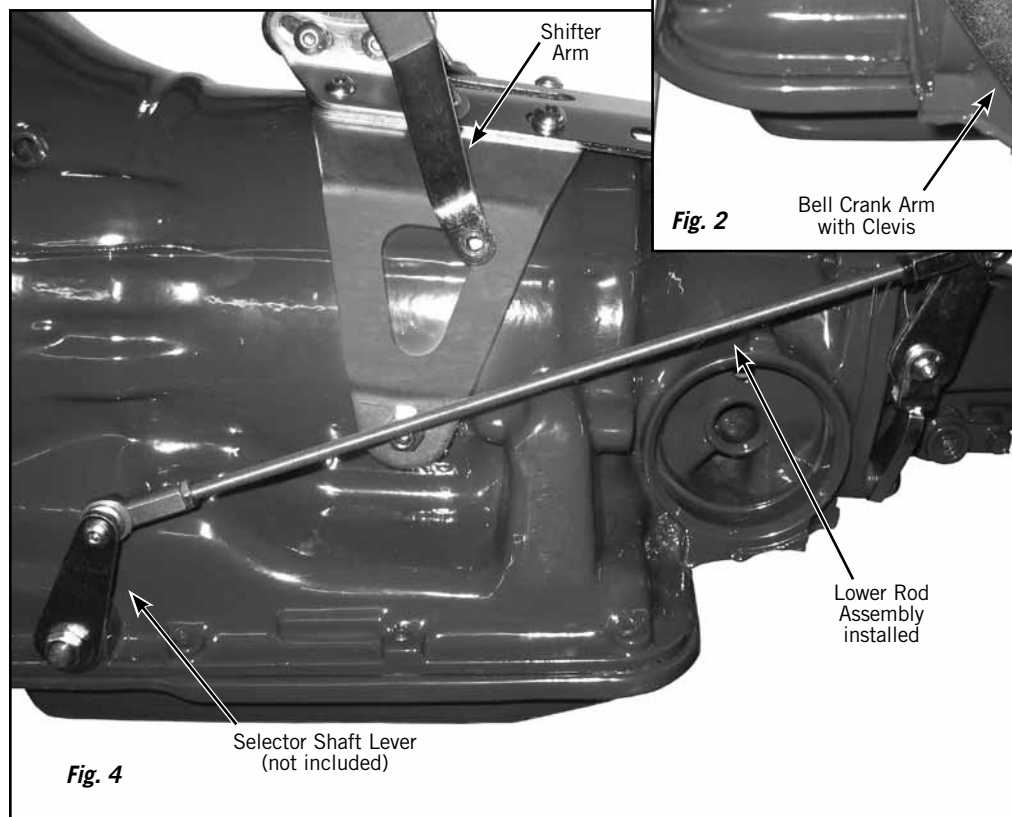

Fig. 4
Step 8: Install the lower rod assembly onto the inside of the selector shaft lever (towards the transmission) using the 1/4"-28 x 1" button head bolt and nylock nut that came with the Lokar shifter. Temporarily connect the opposite end of the lower rod assembly to the outside of the linkage arm (away from transmission) using the supplied 1/4"-28 x 1-1/2" button head bolt, flat washers and nylock nut. **Fig. 4**